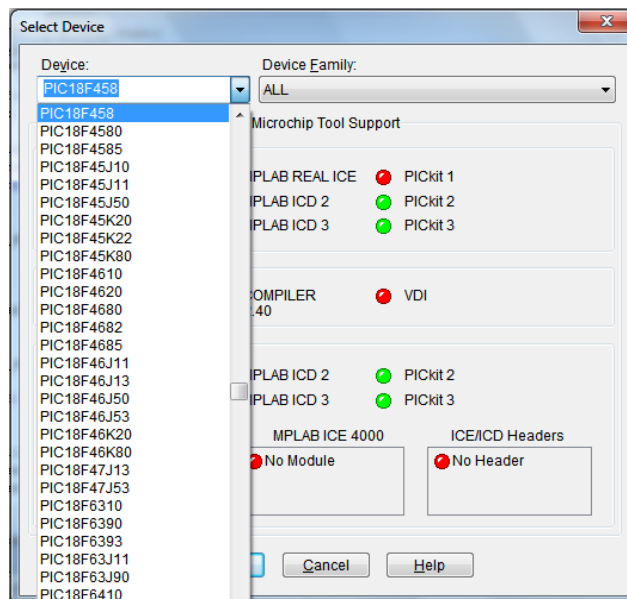

FIGURE 6-6
6.2.4 To be able to program the PIC-P40, you need to select the correct microcontroller. In MPLAB, select **Configure -> Select Device** and select the PIC18F458 from the drop down menu (Figure 6-6). Then click **OK**. If the Voltage Caution window appears again, click **OK**.